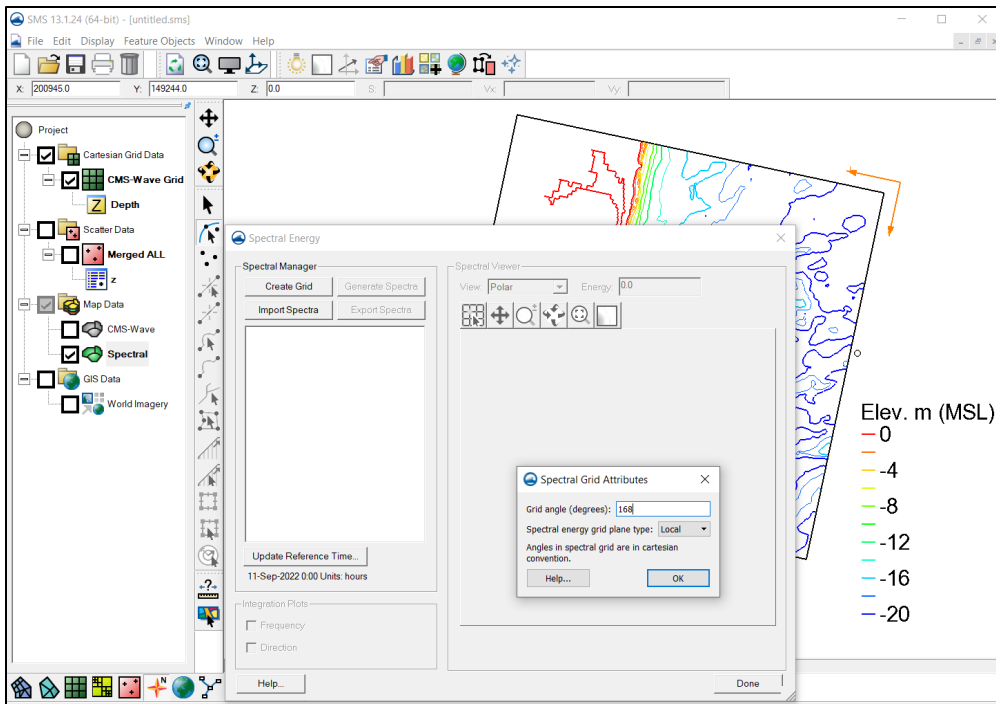

Figure 16. Display *New Coverage* dialog.
- In the *Coverage Type* section, select *Generic* | **Spectral** (Figure 16).